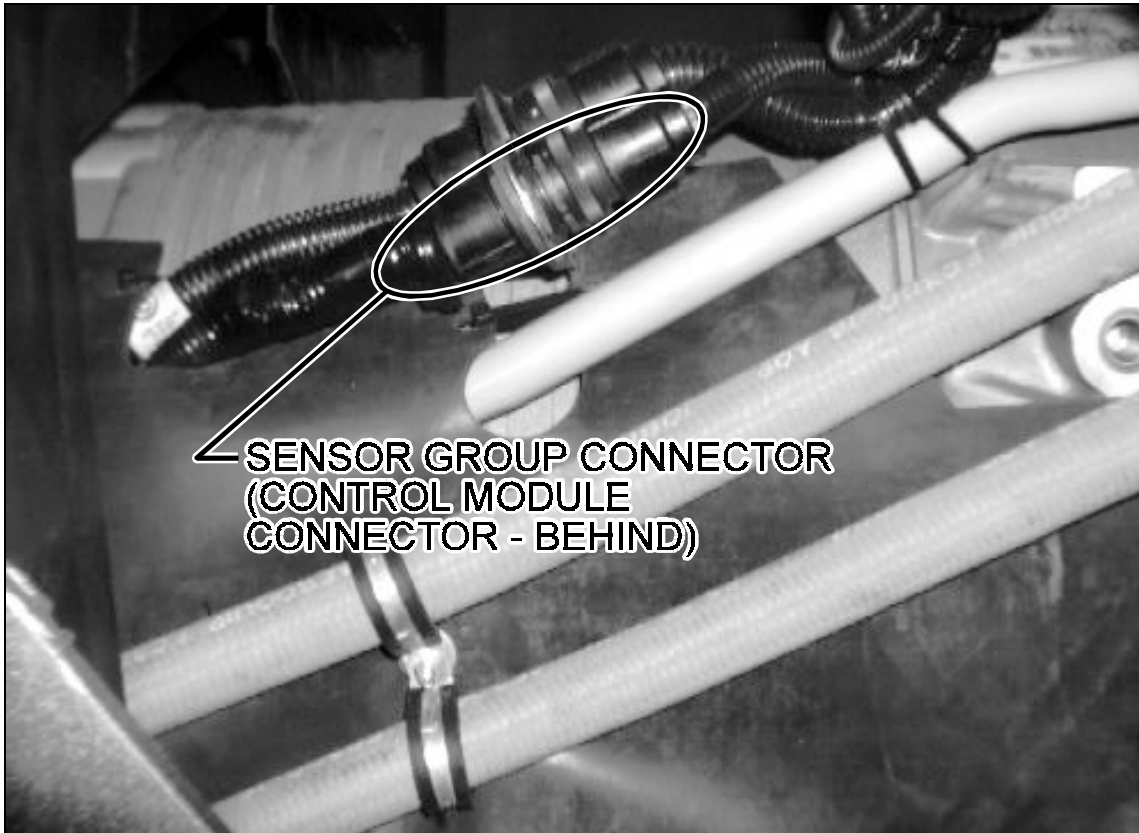

FIGURE 1: VIEWED FROM DRIVER'S SIDE
1. Access transmission (driver's side) from behind tag axle and locate wiring harness. (Fig. 1)
2. Disjoin harness connector for sensor group (Fig. 1).